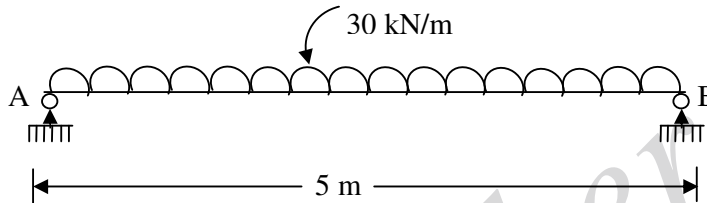

Figure 5
5. Calculate the strain energy of a simple beam shown in Figure 5.